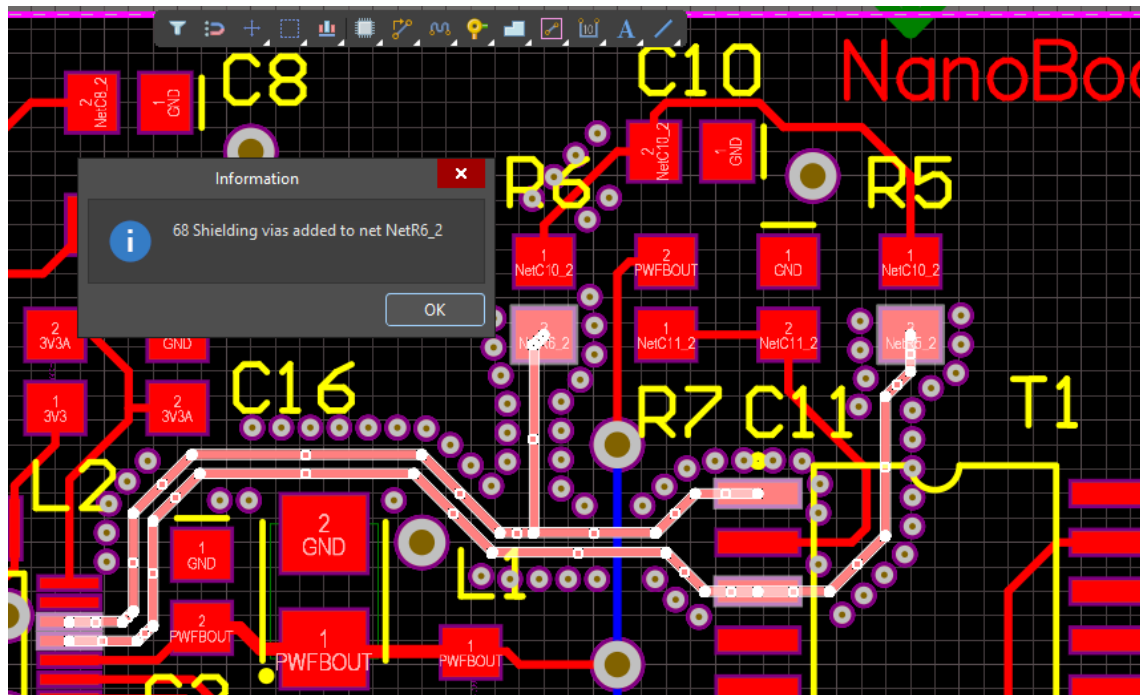

Figure 3. Via Stitching added to NetR5\_2 and NetR6\_2
14. The via shielding is added to that net, as shown in Figure 3.